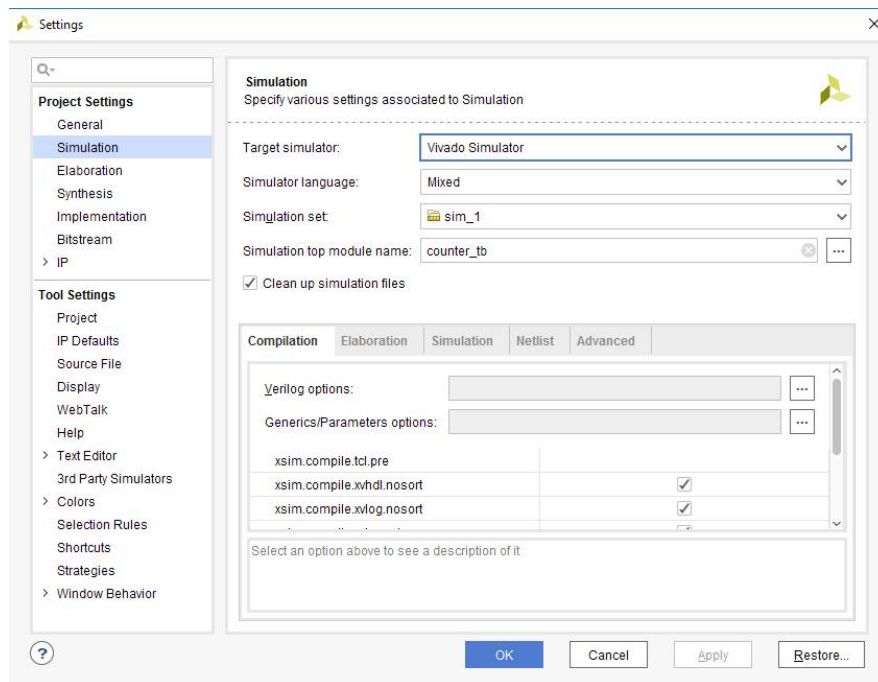

Figure 22
3. In **Simulation** dialog box, check if the **Vivado Simulator** is selected in the **Target simulator** field (Figure 22) (check in the drop-down menu the list of external simulators that may be used with Vivado)